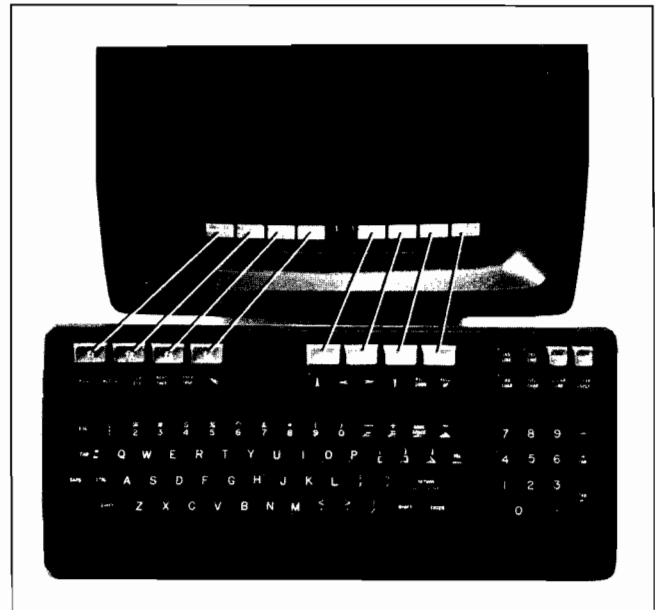

Figure 3-1. Screen-Labeled Function Keys
- **Function Key Group.** This group includes the eight keys labeled "f1" through "f8" and the keys labeled "AIDS", "MODES" and "USER KEYS". The **f1** - **f8** keys are multipurpose keys in that the functions they perform vary from one situation to another. At any given time the applicable labels for the function keys are displayed across the bottom of the screen (figure 3-1).